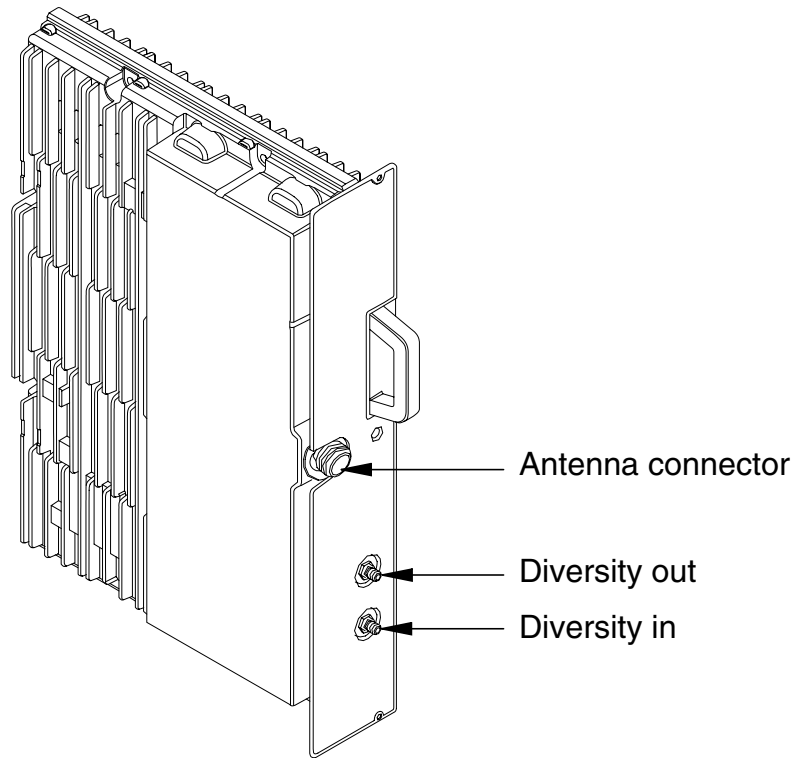

Figure 11. Nokia MetroSite EDGE Base Station 5W GSM/EDGE TRX unit
1. Slide the unit into the appropriate slot. See Figure 11.